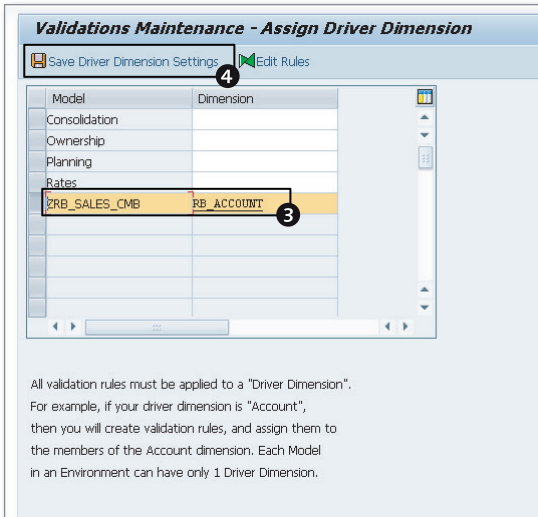

Figure 6.31 Creating a Validation Rule—Part B
2. All of the models associated with the environment are displayed. Enter the dimension for the model for which you want to set the Driver dimension, and click on SAVE DRIVER DIMENSION SETTINGS (Figure 6.31, ❸ and ❹). In our example, we're setting RB_ACCOUNT as the Driver dimension for our planning model.